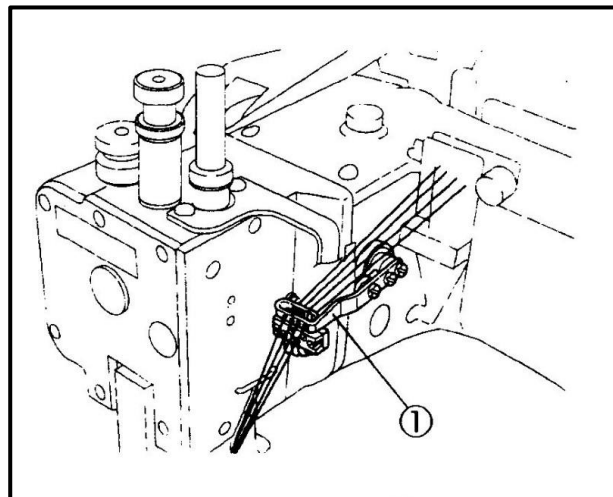

Fig.36
- (1) Position the needle thread take-up $\odot$ at the lowest point. (Fig.36)